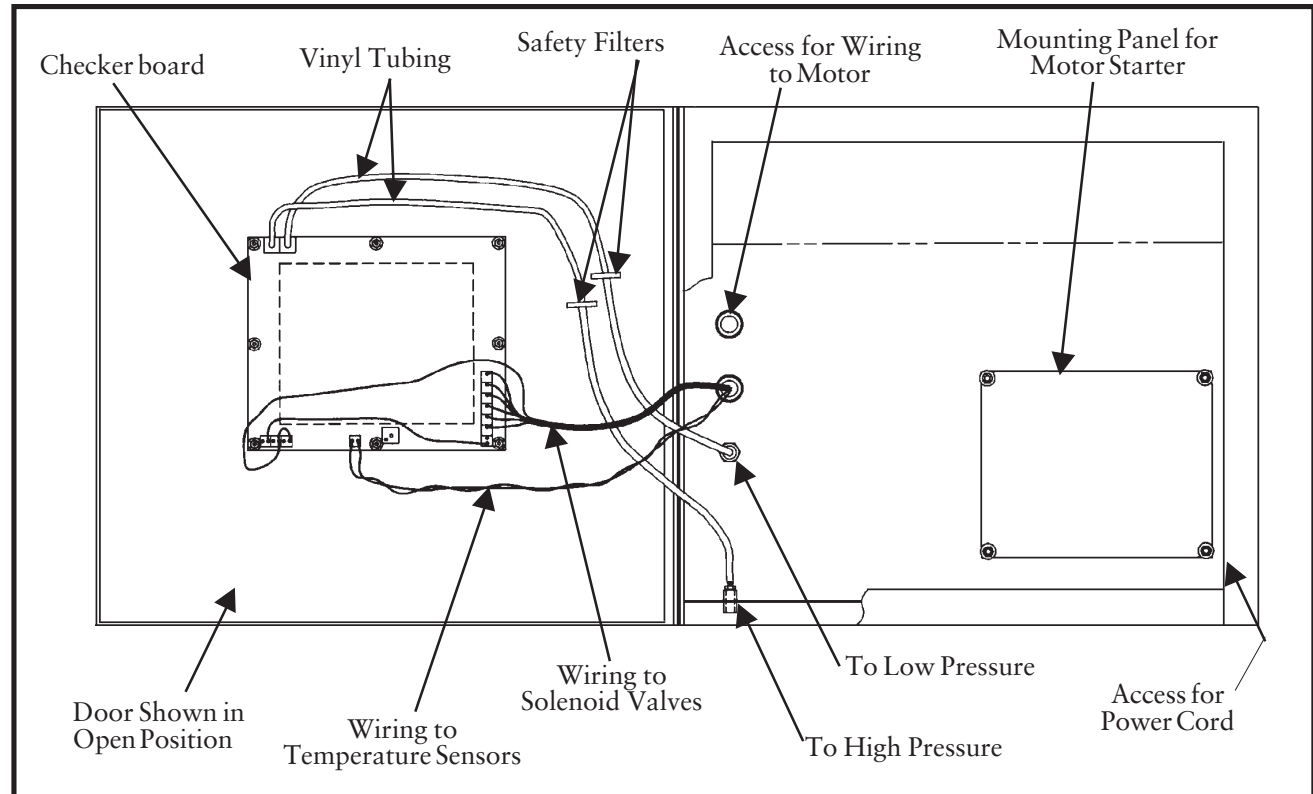

Figure 17
2. Unwired with the Checker board on the unit (see Figure 17 Unwired with Checker Board on Unit)